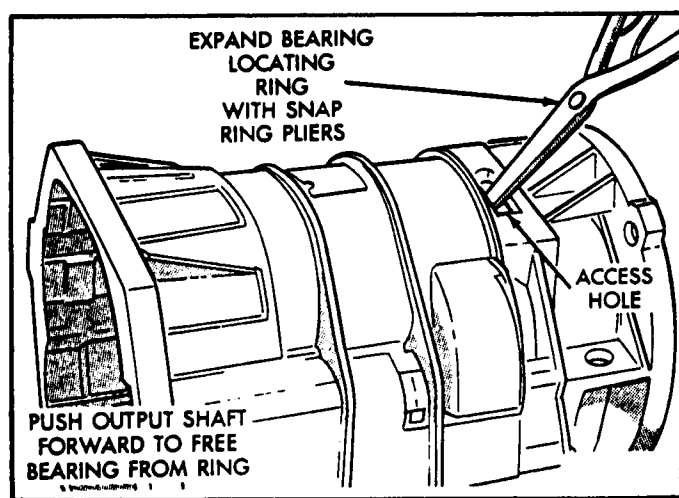

Figure 27
40. Expand the rear bearing snap ring with snap ring pliers, as shown Figure 27, and slide housing downward until the locating ring snaps into groove in the bearing.